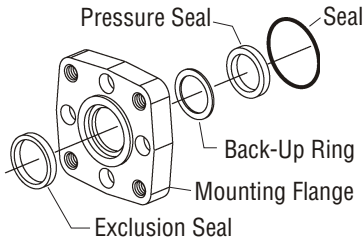

Figure 5-23, Mounting Flange Seals
7. The exclusion seal, back-up ring, pressure seal and seal will come off with the mounting flange (Figure 5-23).